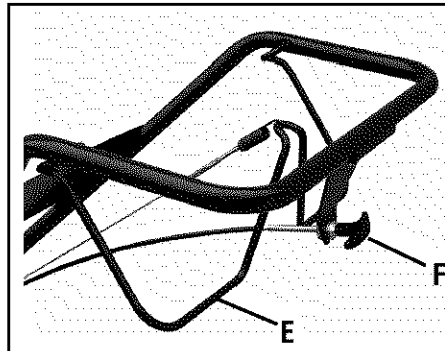

Figure 3-4: All models have a Forward Clutch Bail (E). Only Models 634F/634B have a Reverse Clutch Control (F).
The Forward Clutch Bail (E, Figure 3-4) controls the engagement of forward drive to the wheels and tines.
2. Lift and hold the clutch bail (E, Figure 3-4) against the handlebar to start the wheels and tines rotating in a forward direction.
The Reverse Clutch Control (F, Figure 3-4) controls the engagement of reverse drive to the wheels and tines. **The reversing feature is used for maneuvering the tiller only — never engage the tines in the ground while operating in reverse.**
3. Lift the handlebar until the tines clear the ground, look behind you to avoid any obstacles, and then pull the control knob (F, Figure 3-4) out. The wheels and tines will rotate in a reverse direction.